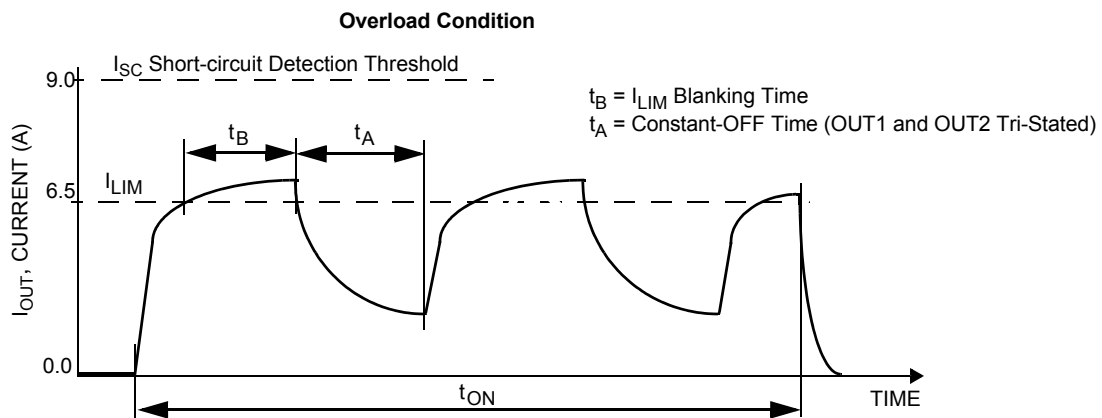
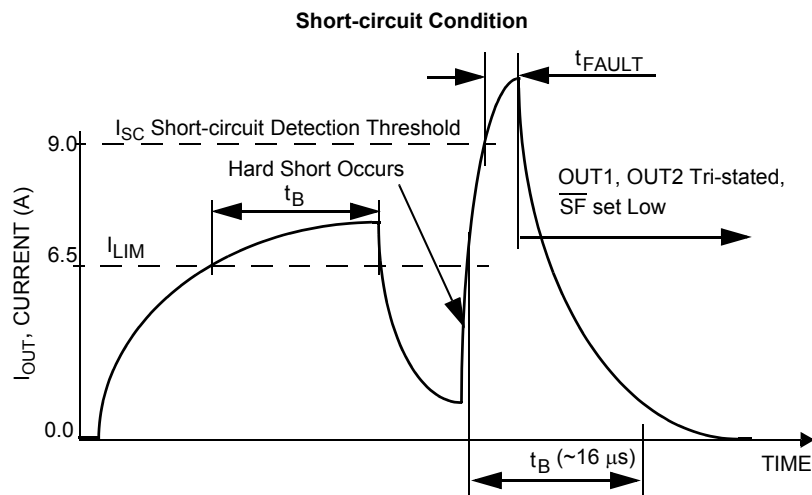
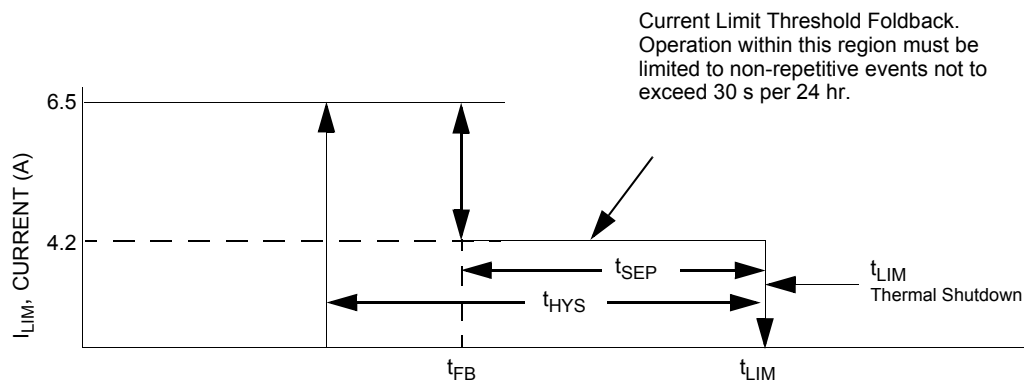

Figure 7. Current Limit Blanking Time and Constant-OFF Time
Figure 8. Short-circuit Detection Turn-OFF Time t_{FAULT}
Figure 9. Output Current Limiting Foldback Region
28. Load currents ramping up to the current regulation threshold become limited at the I_{LIM} value (see Figure 7). The short-circuit currents possess a di/dt that ramps up to the I_{SCH} or I_{SCL} threshold during the I_{LIM} blanking time, registering as a short-circuit event detection and causing the shutdown circuitry to force the output into an immediate tri-state latch-OFF (see Figure 8). Operation in Current Limit mode may cause junction temperatures to rise. Junction temperatures above $\sim 160^{\circ}\text{C}$ will cause the output current limit threshold to "fold back", or decrease, until $\sim 175^{\circ}\text{C}$ is reached, after which the T_{LIM} thermal latch-OFF will occur. Permissible operation within this fold back region is limited to non-repetitive transient events of duration not to exceed 30 seconds (see Figure 9).